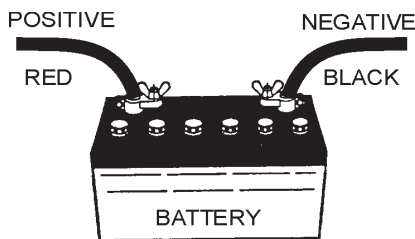

Figure 16. Battery Connections
**ALWAYS** be sure the battery cables (Figure 16) are properly connected to the battery terminals as shown below. The **RED** cable is connected to the positive terminal of the battery, and the **BLACK** cable is connected to the negative terminal of the battery.